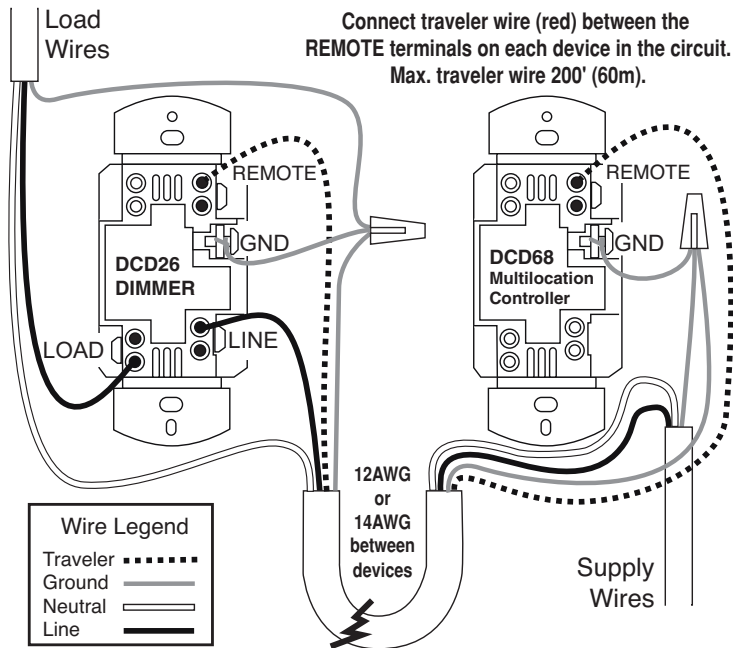

Figure 2: Two location wiring
5. Install the DCD26 dimmer and the DCD68 controller, following the wiring diagram in Figure 2. The dimmer can go in either location. Use a 3-wire and ground cable to wire between devices. (In existing 3-way switched installations this wire is already in place.) The DCD68 requires a ground. Be sure to verify the ground connection.